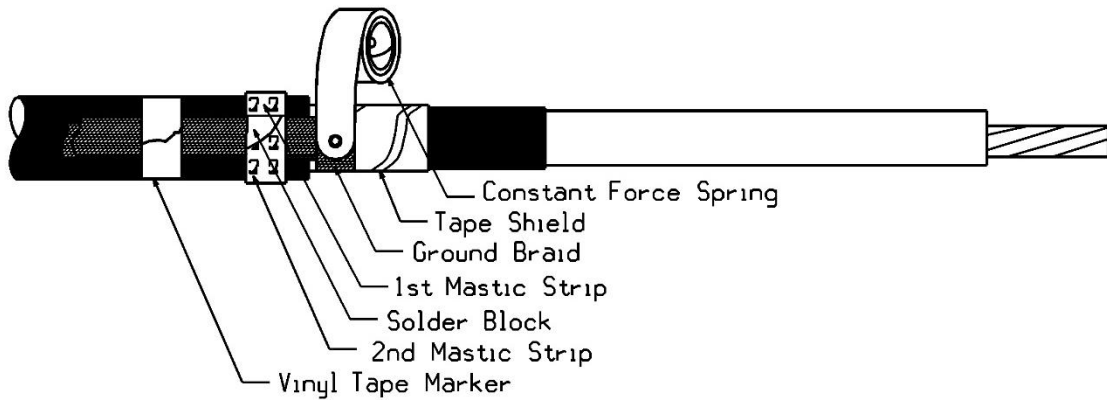

Figure 22
3. Wrap the ground braid around the tape shield and secure with a constant force spring. Using the second mastic strip from the termination kit, remove the liners and wrap mastic over the solder blocks and the first mastic strip. If the solder blocks overlap each other, mastic must be applied between the solder blocks as well as over them. See Figure 22.